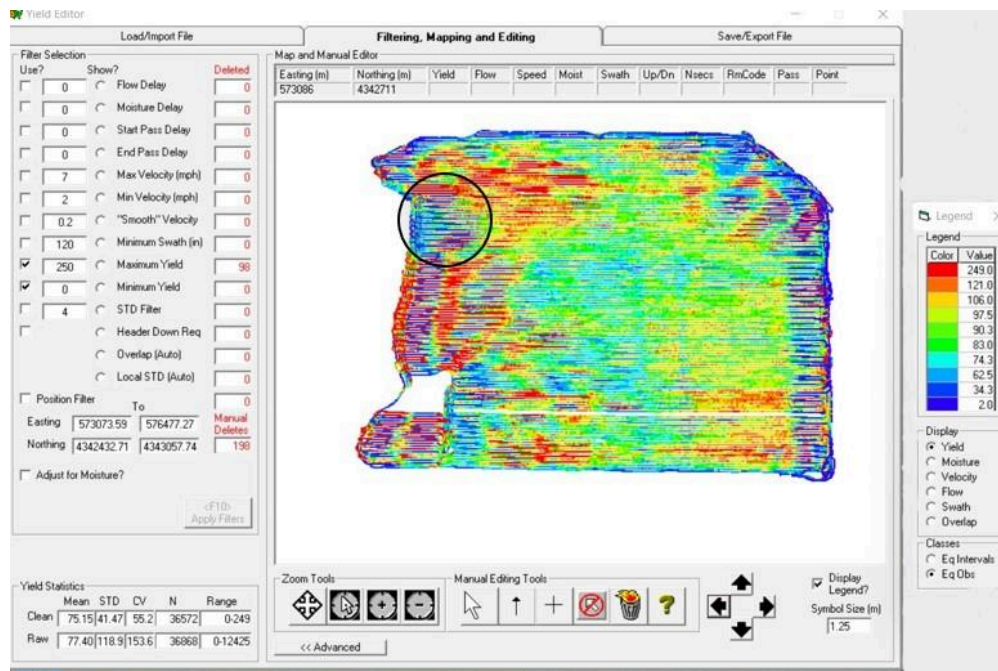

Figure 3a. This map is not clean. You can see sawtooth marks and abrupt transitions. Alter <Flow Delay> to improve this map.
- 26.5 To determine modified delay values for red and yellow outlined plots, two options are available. Using values from another field with the same combine, crop, and year can provide an estimated value. Alternatively, you can manually alter flow delay values until the spatial variability is well defined (Figures 3a and 3b). Often, delay values are between 11 and 16 seconds.